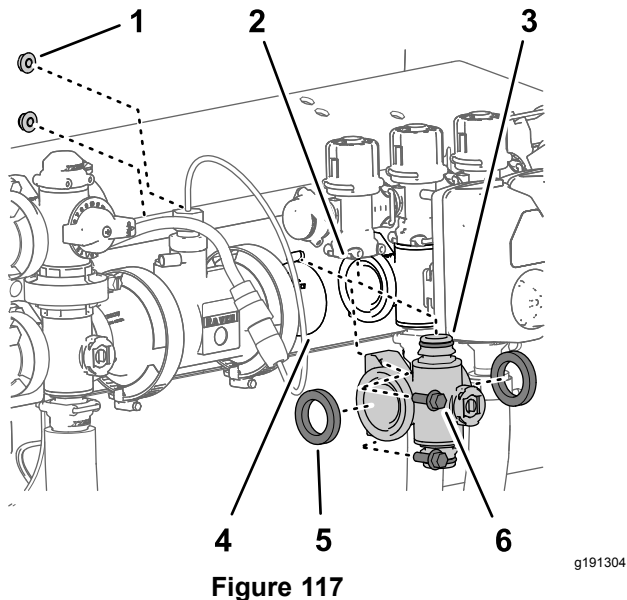
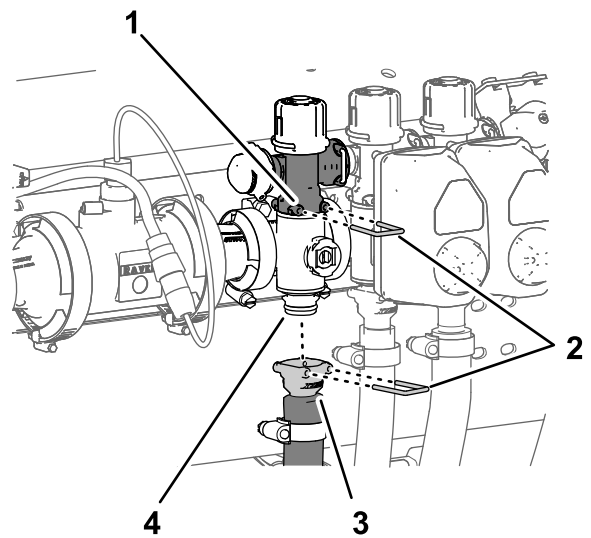

Figure 117
Figure 118
1. Align the 2 gaskets that you removed in Removing the Section-Manifold Valve \(page 80\) to the flanges of the section-valve manifold (Figure 117).
2. Align the flange of the section-valve manifold between the flanges of the other section-valve (s) and/or coupling adapter (Figure 117).
3. Assemble the quick-connect fitting of the section-valve manifold to the quick-disconnect socket of the section-bypass valve with a quick-connect pin (Figure 117 and Figure 118).
5. For left or right section-valve manifolds, assemble the section-valve manifold to the valve support (Figure 117) with the 2 flange-head bolts (1/4 x 3/4 inch) and 2 flange locknuts (1/4 inch) that you removed in Removing the Section-Manifold Valve \(page 80\).
8. Assemble the quick-connect coupler of the section hose onto the quick-connect fitting of the section-valve manifold with the quick-connect pin (Figure 118).